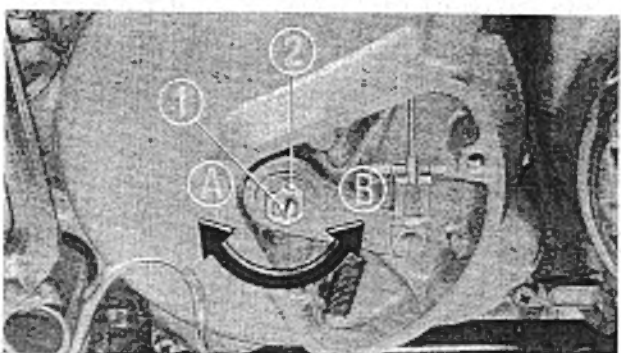

Fig. 2-2 ① Clutch adjusting screw
2. Screw the clutch cable adjuster located at the clutch lever, all the way into (A) the clutch lever bracket.
3. Turn the clutch cable adjuster located at the clutch housing, in the direction (A) to loosen the clutch cable.
4. Remove the clutch cover. Loosen the clutch lifter adjusting screw lock nut (see Fig. 2-2), turn the clutch adjusting screw in the clockwise direction (A) until a slight resistance is felt. From this position, turn the adjusting screw in the counterclockwise direction (B) 1/4~1/2 turn. Tighten the lock nut.
5. Turn the clutch cable adjuster located at the clutch housing side of engine, in the (A) direction so that there is approximately 3/4" of free play at the end of the clutch lever, then tighten lock nut.